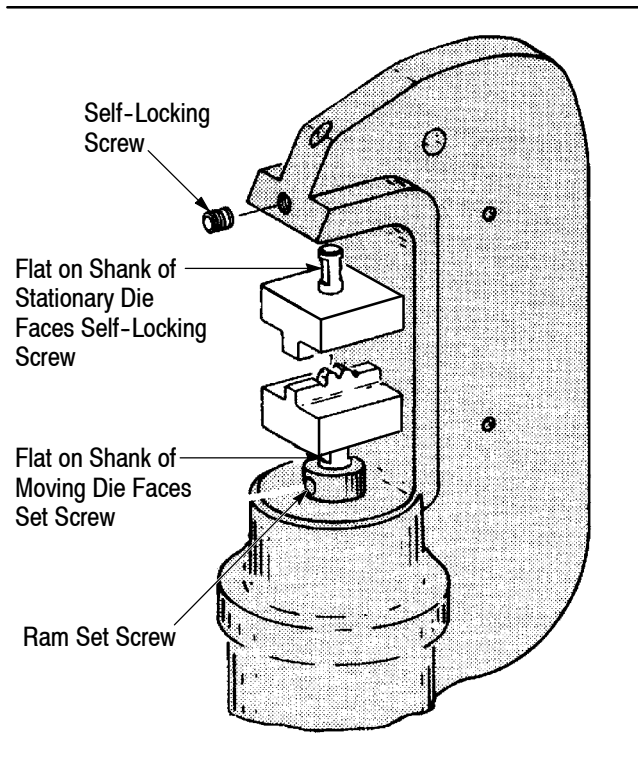

Figure 2
1. Back off the self-locking screw in the “C”-head and set screw in the ram (ram must be advanced to gain access to the set screw). Refer to Figure 2.
2. Insert the dies in the “C”-head and ram, ensuring that the flat on each die shank faces the screw. See Figure 2.
- Changed ram "lock screw" to ram "set screw" in Figure 2